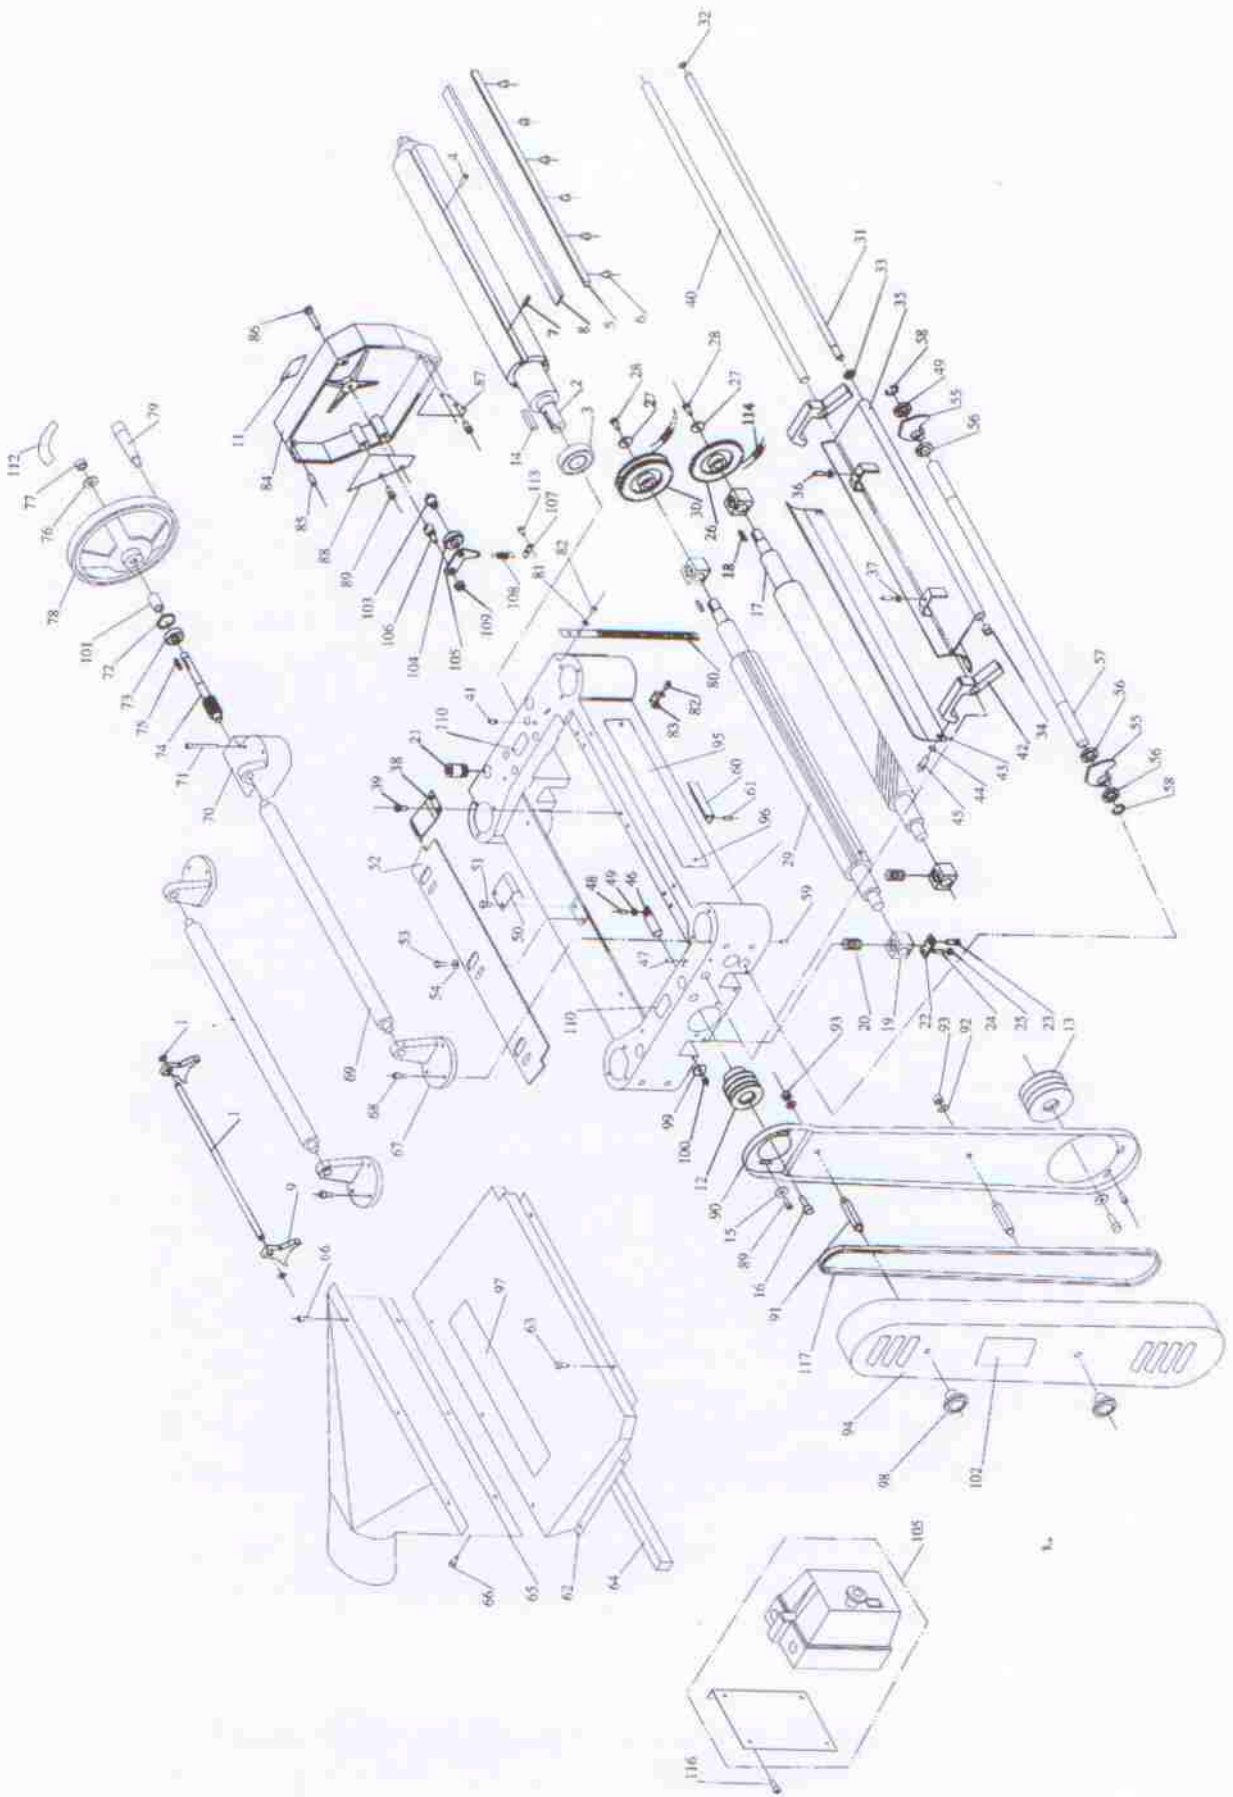

Fig.35
The two return rollers (A) Fig.35, on the top of the machine serve as convenient stock rest. When planed lumber is returned to the infeed side it saves time and motion, as shown in Fig 35.
Dust collector hood is standard accessory. Assembled to the rear of the planer using hex. hd screws and washers. It provides an efficient means of maintaining a clean and safe work area as shown in Fig 35. (B)